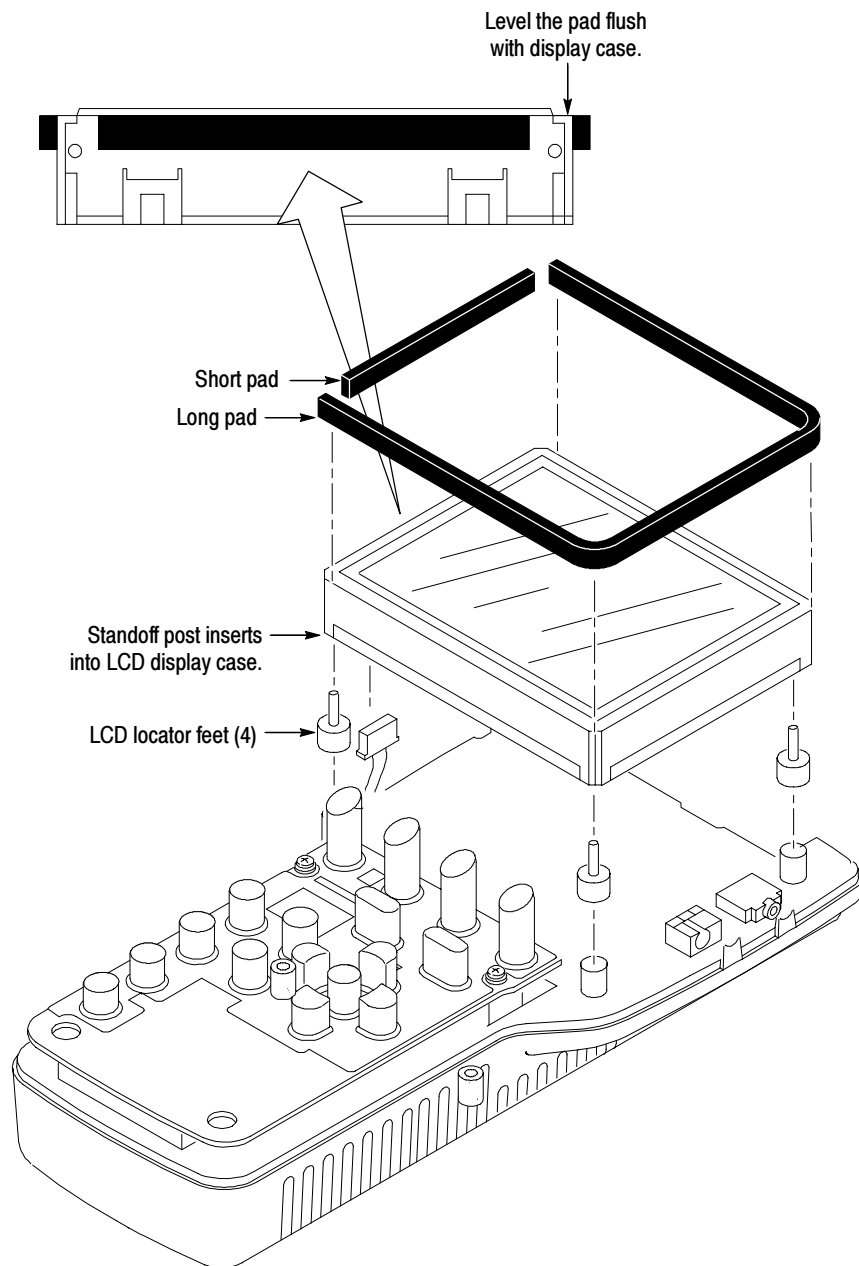

Figure 6-3: Installing the LCD display
4. Set the LCD display module onto the four locating feet. The locating feet fit into small holes in each of the four corners on the back of the LCD display. See Figure 6-3.
2. Align the padding with the top surface of the LCD display module and press the padding onto the side of the display. See Figure 6-3.